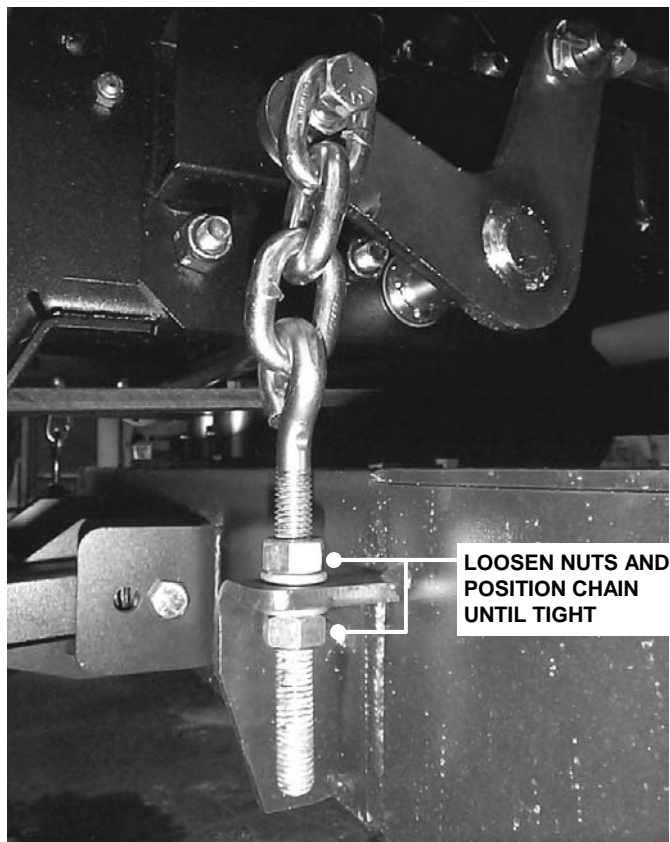

FIGURE 5.6
7. Loosen the nuts that secure both rear deck support eyebolts. Adjust to remove slack from both rear chains. Tighten nuts securely. See Figure 5.6.